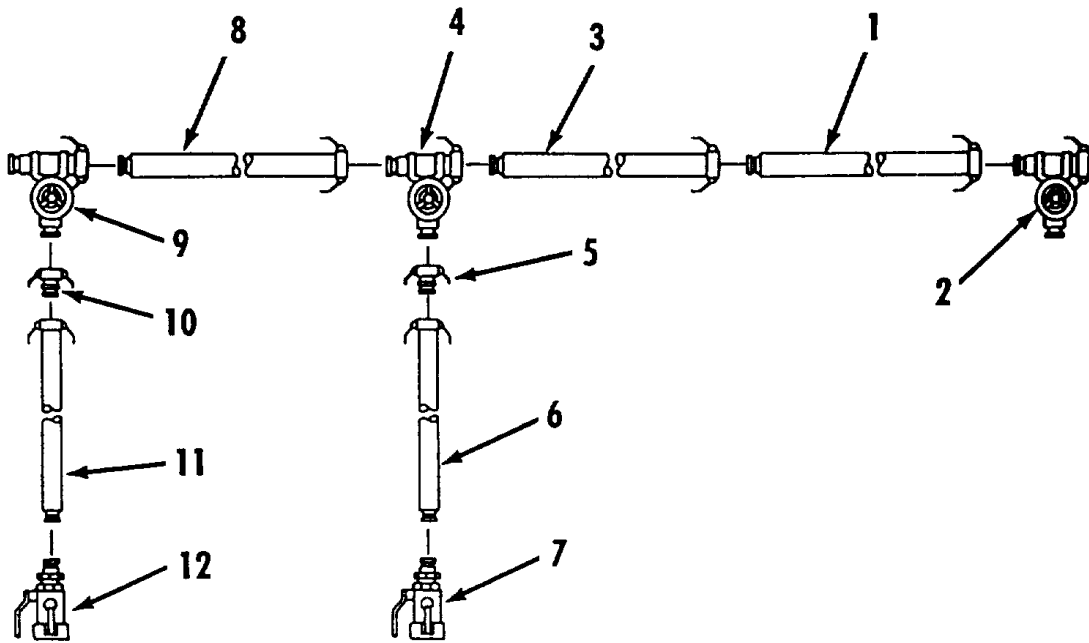

Figure 2-50. Fuel System - Bottom Loading Point to Drum Filling Points Removal.
- i. Fuel System - Bottom Loading Point to Drum Filling Points Removal. Refer to figure 2-50.